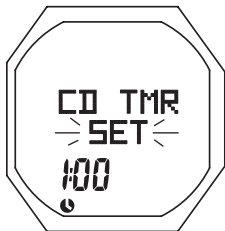

Fig. 12 - CDT STATUS
- >> If SET is selected (Fig. 12), Set CDT is accessed.
- S (< 2 sec) to save the CDT Set Point and revert to the CDT Status screen with SET flashing (similar to Fig. 12).